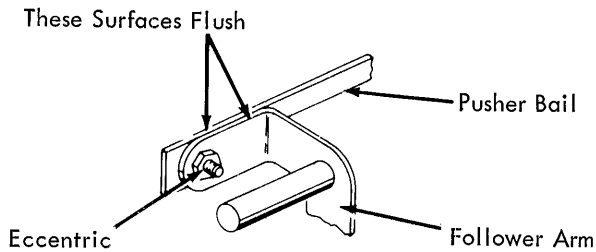

FIGURE 24. Pusher Bail
1. Pusher Bail Eccentrics (Fig. 24) - Adjust so that the top edge of the follower arms are flush with the pusher bail.